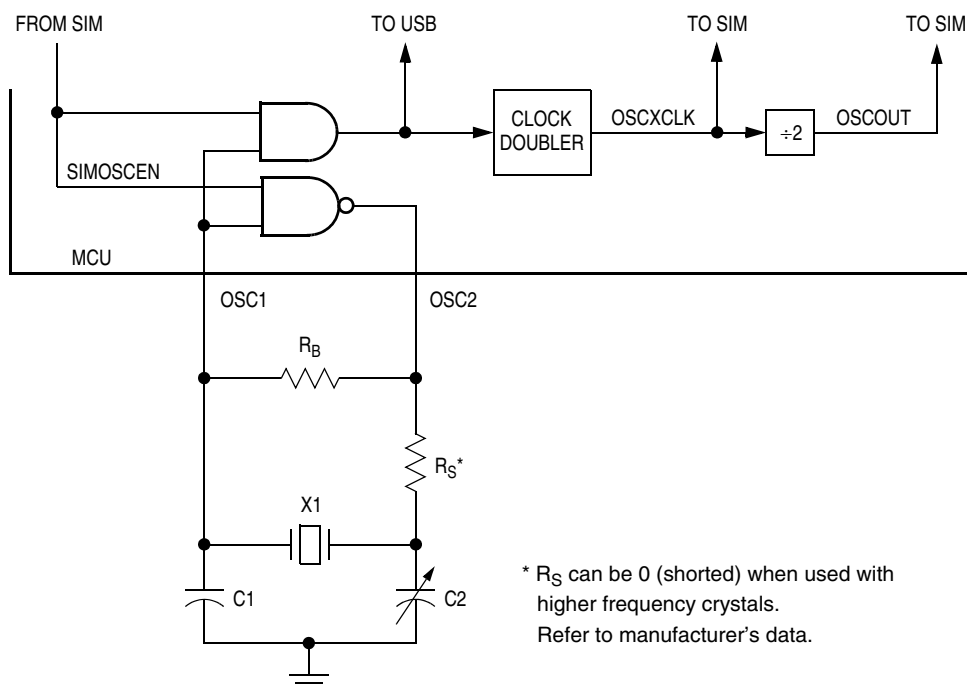

**Figure 7-1. Oscillator External Connections**
**Figure 7-1** shows the structure of the oscillator. The oscillator requires various external components.
In its typical configuration, the oscillator requires five external components. The crystal oscillator is normally connected in a Pierce oscillator configuration, as shown in **Figure 7-1**. This figure shows only the logical representation of the internal components and may not represent actual circuitry. The oscillator configuration uses five components:
The crystal oscillator output signal passes through the clock doubler and OSCXCLK is the output signal of the clock doubler. OSCXCLK runs at twice the speed of the crystal ( $f_{XCLK}$ ). **Figure 7-1** shows only the logical relation of OSCXCLK to OSC1 and OSC2 and may not represent the actual circuitry. The duty cycle of OSCXCLK is unknown and may depend on the crystal and other external factors. Also, the frequency and amplitude of OSCXCLK can be unstable at startup.